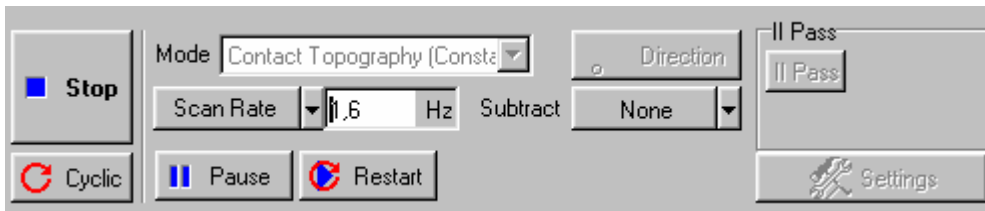

Fig. 3-24
- Some buttons on **SCAN** panel are replaced with buttons **Pause, Restart, Stop** (Fig. 3-24):.